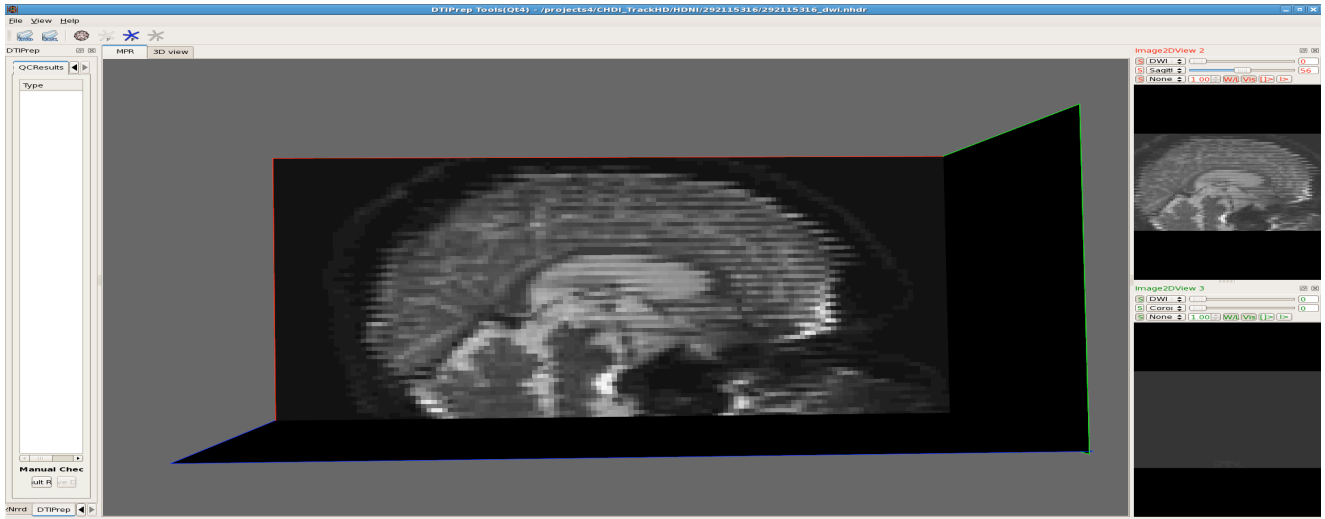
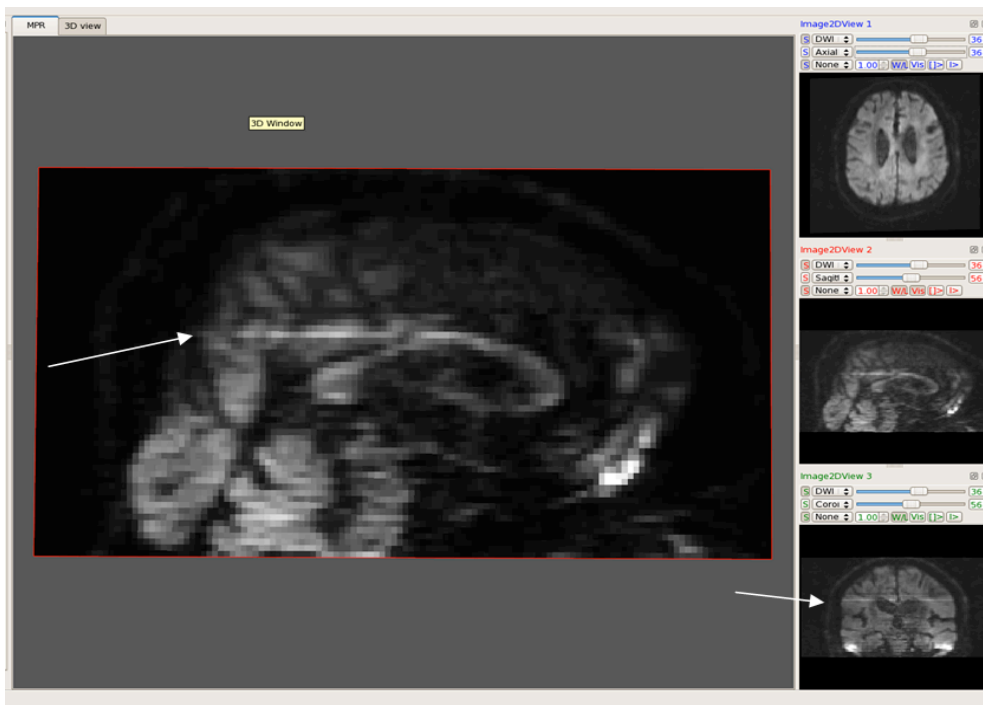

Figure 1.4 “Venetian Blind” Effect A clear example of the “venetian blind” artifact as seen in DTIPrep
Figure 1.7 DWI with a high-intensity axial slice as displayed in DTIPrep
- iv. Run the extraction script, `ExtractGradDir.py` on the `~QCed.nhdr` file, to remove directions deemed appropriate for manual exclusion based on image quality. These include gradients with “venetian blind” effects (Fig. 1.4), “checkers” effects Fig. (1.5), motion artifacts as well as gradients containing one or more axial slices displaying higher or lower intensities across the whole slice (Fig. 1.7).